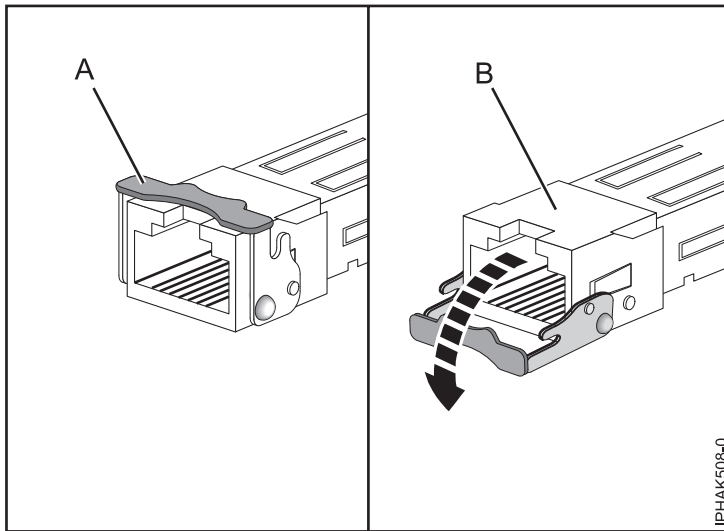

Figure 11. Removing SFP transceivers from adapters
a static-protective surface, open the latch (A) by rotating it down and away from the card as shown in Figure 11. Slide the transceiver (B) out of the adapter hardware. Repeat for the other transceiver.
**Note:** Some Ethernet or Fibre Channel adapter FRUs require the removal of the small form-factor pluggable (SFP) transceivers (if present) in order to remove the tailstock. With the card lying flat on a static-protective surface, open the latch (A) by rotating it down and away from the card as shown in Figure 11 on page 24. Slide the transceiver (B) out of the adapter hardware. Repeat for the other transceiver.